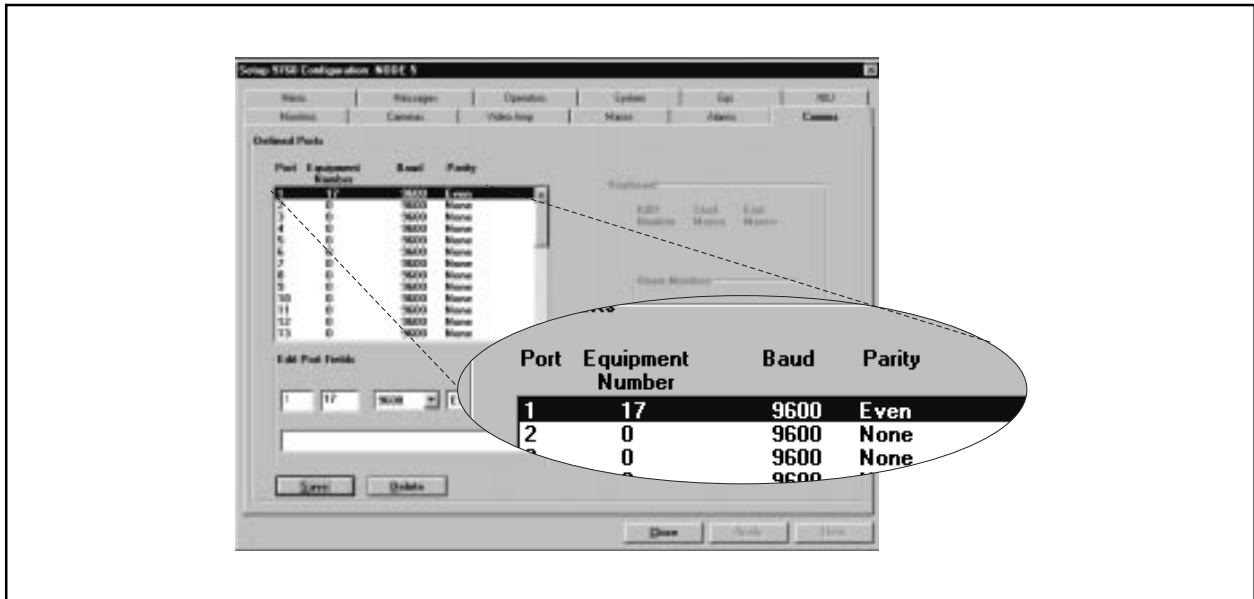

Figure 13. Configuring the COMMS file for VCRC Operation
10. Define operator access, save the GPI file, return to the MGR main menu screen and press the tab to bring up the COMMS file (.SCP file). Refer to Figure 13.